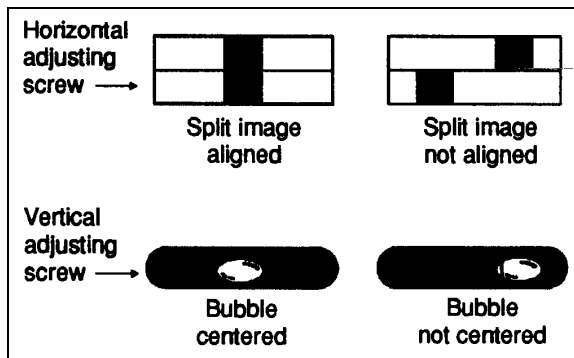

FIGURE 45: HEADLIGHT ALIGNER
3. Turn the horizontal aim adjusting screw of each headlight until split image is aligned (Fig. 45).
2. Turn the adjusting screw of the headlight vertical aim until bubble is centered (Fig. 45). Repeat operation on other headlight.